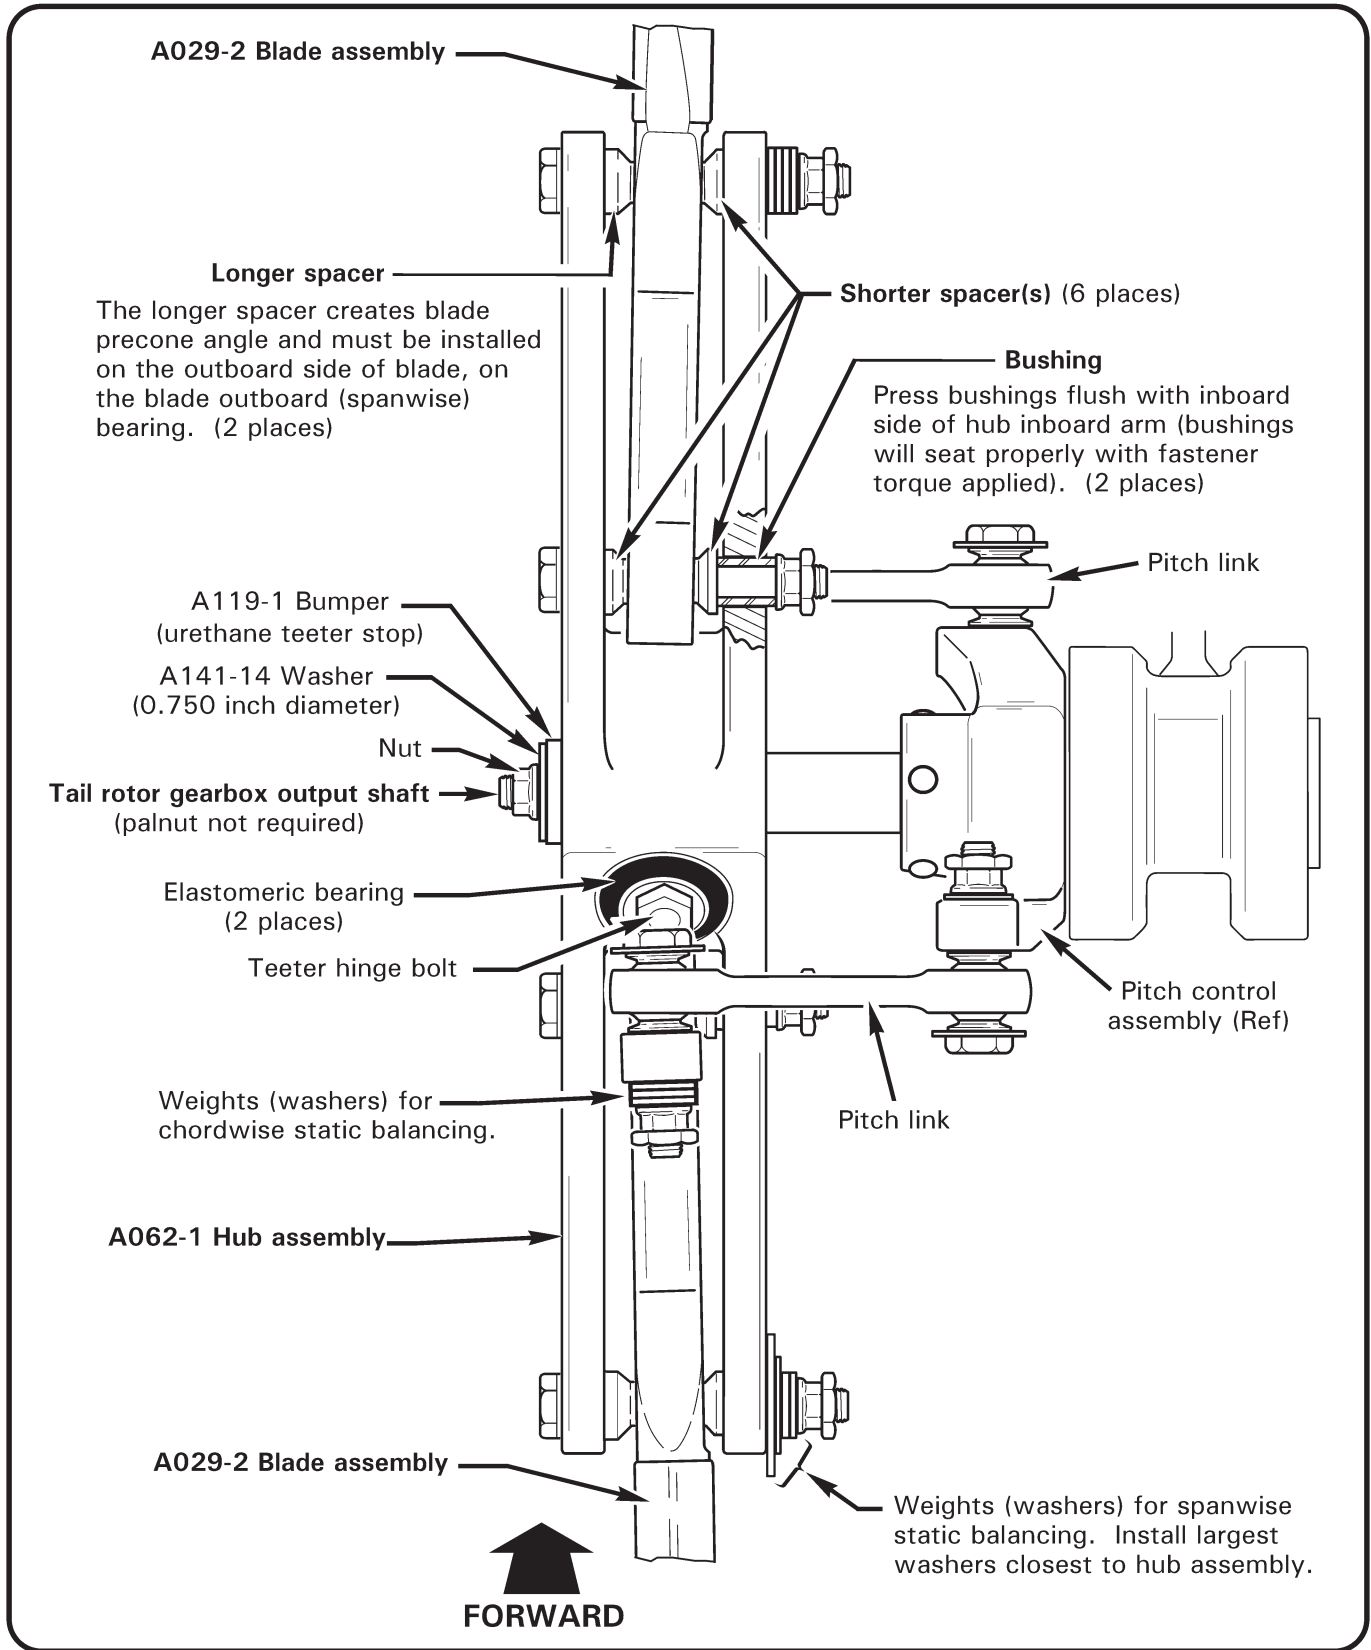

FIGURE 9-11 TAIL ROTOR ASSEMBLY INSTALLATION (A008-4 ASSEMBLY SHOWN)
Ensure blades are installed in proper direction of rotation, and large A137-2 spacers installed per Figure 9-11.
2. See Figure 9-11. Verify blades cone toward tail rotor gearbox.
8. Assemble blades to hub. Verify counterclockwise direction of rotation. Verify correct orientation of bolts and correct location/orientation of A137-1 & A137-2 spacers per Figure 9-11. Torque bolts per Section 1.320, install palnuts, and torque stripe.